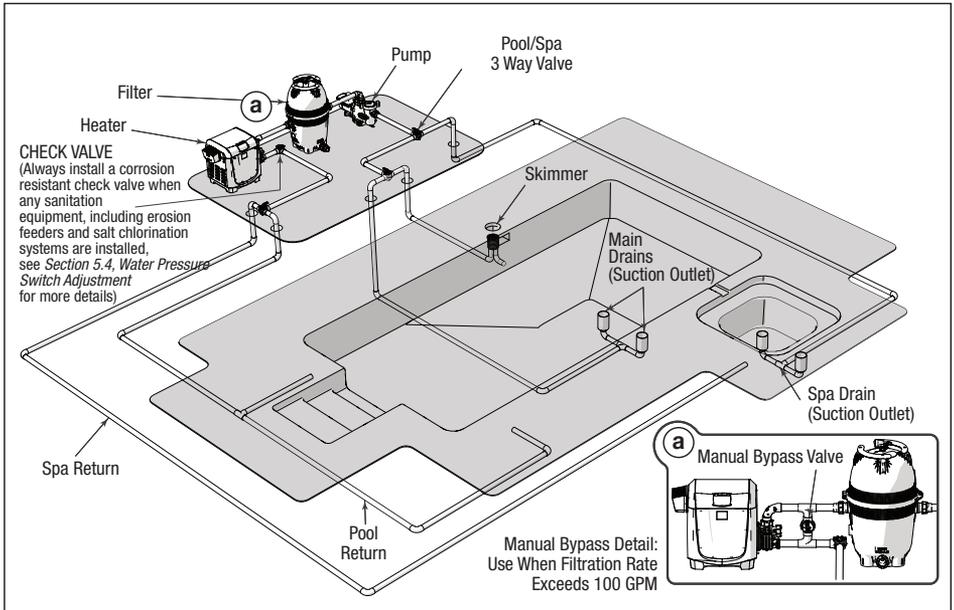

Figure 9. Typical Water Piping Configuration
Install pool system components with connections as illustrated in *Figure 9*. Any configuration other than as illustrated in *Figure 9* can affect the operation of the water pressure switch. Locating the heater above or below the pool water surface can also affect operation of the water pressure switch.
- Connect a valve between the water inlet and outlet. See inset “a” in Figure 9.